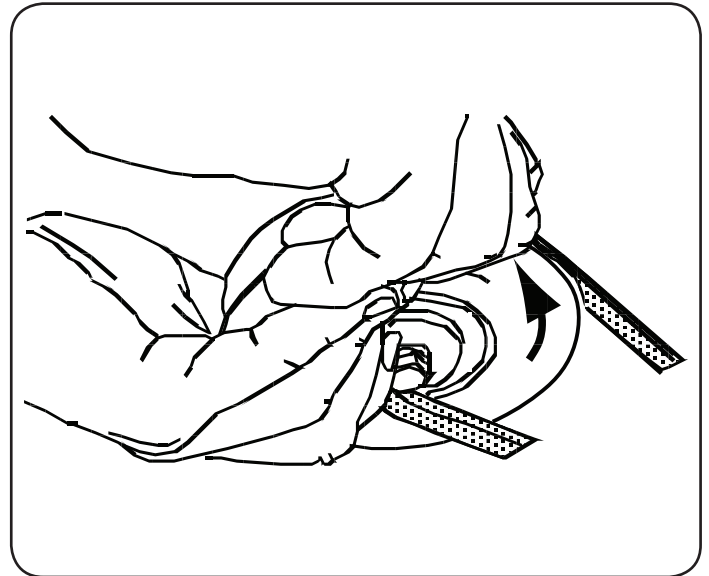

Figure 27
- Pull the right side of the belt and place the narrow V side of the belt into the PTO pulley. See Figure 27.